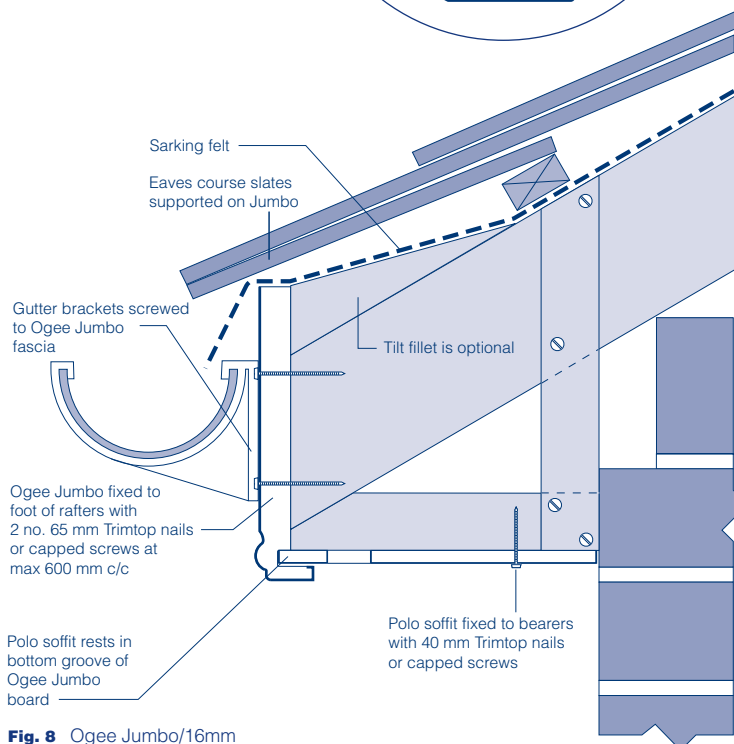

Fig. 8 Ogee Jumbo/16mm used with polo vented soffit
- Where eaves protection is not to be fitted the roof felt must be in good condition and dressed over the fascia down into the gutter. (Fig 8)